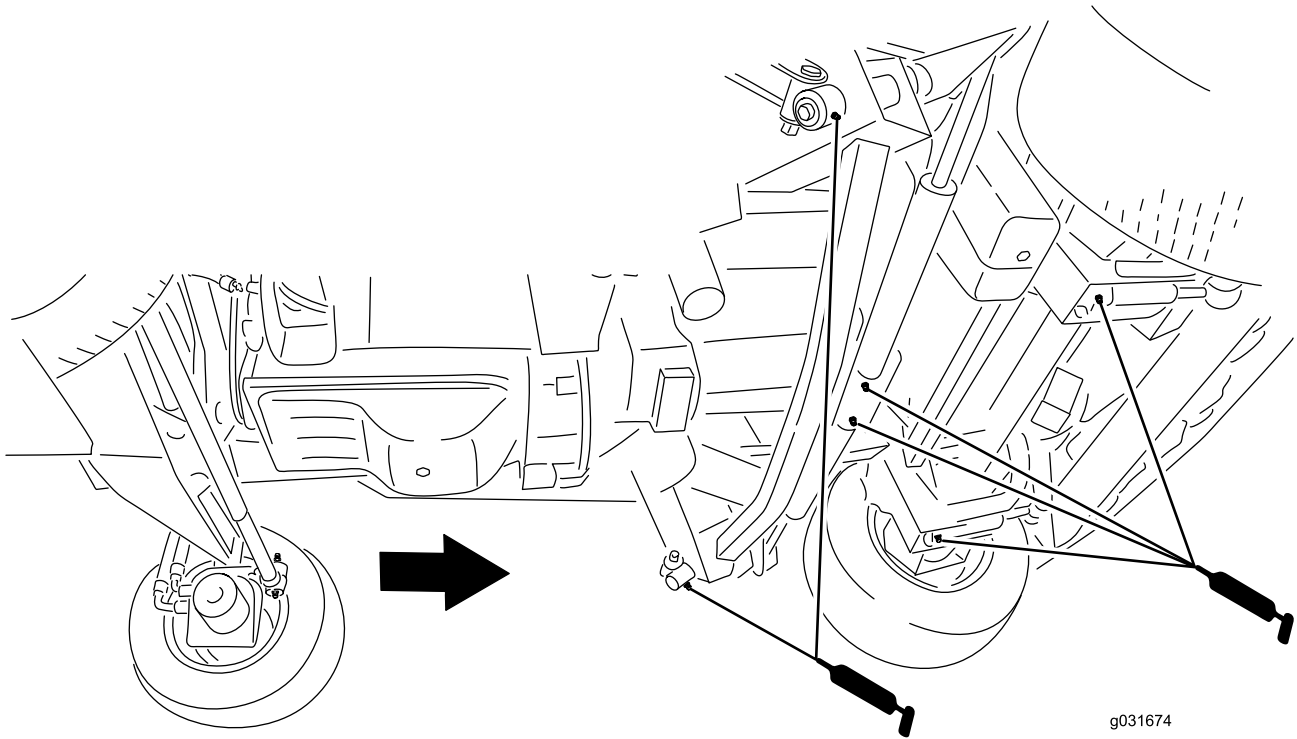

Figure 80
- 2 impact arms (Figure 80)
- 2 front deck-lift-cylinder pivots (Figure 80)
- 2 side deck-lift-cylinder pivots (Figure 80)